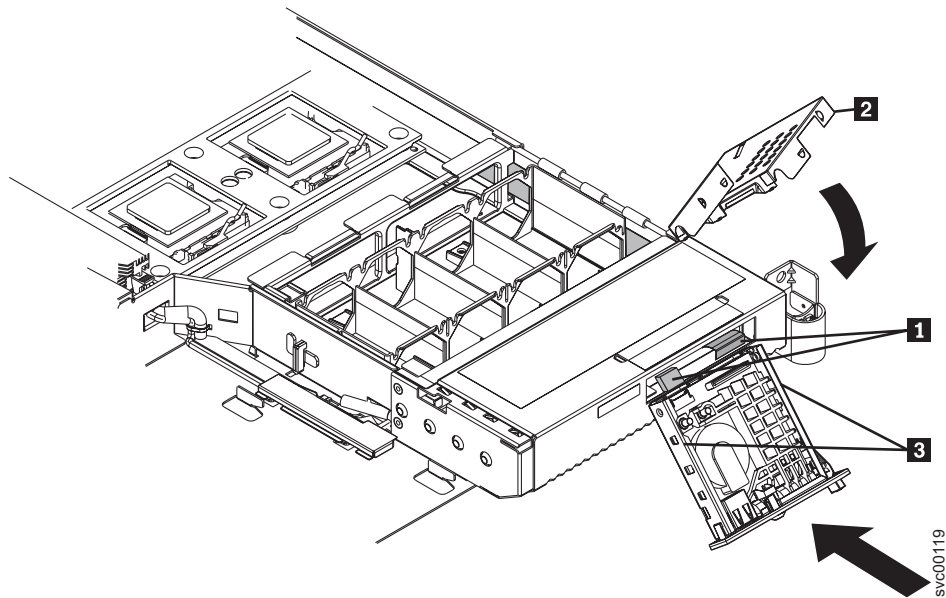

Figure 177. Replacing the operator information panel
1. Plug in the two cables on the rear of the assembly **1**. See Figure 177 on page 448.